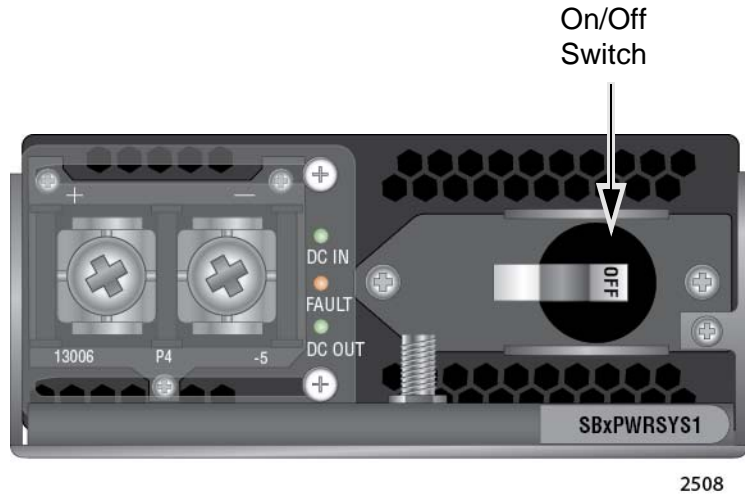

Figure 60. On/Off Switch on the AT-SBxPWRSYS1 DC Power Supply
4. Verify that the On/Off switch on the power supply is in the Off position. Refer to Figure 60 on page 133.